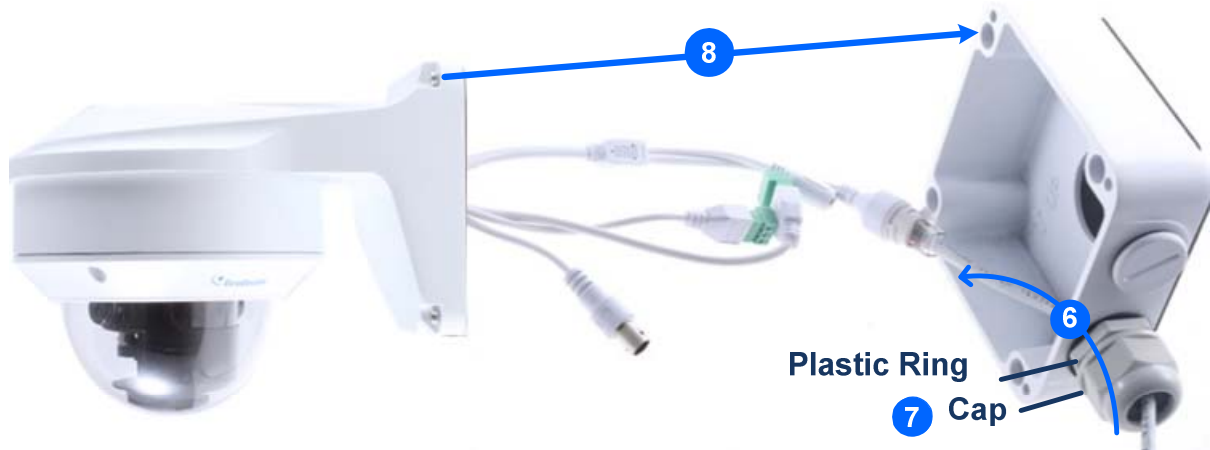

Figure 1-85
6. Thread the Ethernet cable through the PG21 conduit connector and the power box, as shown in No 6, *Figure 1-85*. Then connect the cable to the camera.
7. Rotate the plastic ring to secure the conduit connector to the power box. Screw in the cap shown in No 7, *Figure 1-85*.
8. Screw the wall mount bracket to the power box, as shown in No. 8, *Figure 1-85*.